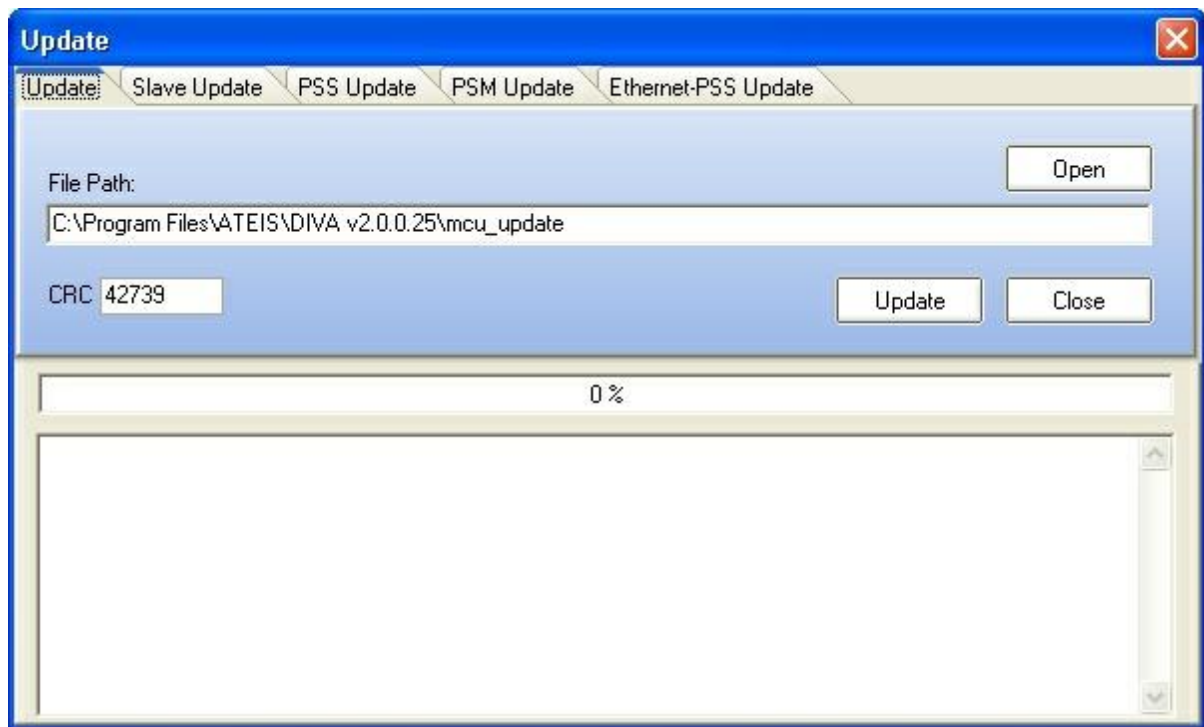

Figure 6: Update window
- If this is the first installation, please update the DIVA software to the latest version available on our website. In the DIVA software click on the menu "tools-> update". In the update window (Figure 6), verify that the path specified is the one corresponding to the last version software, if not click open and choose the right one. Then click on the update button.